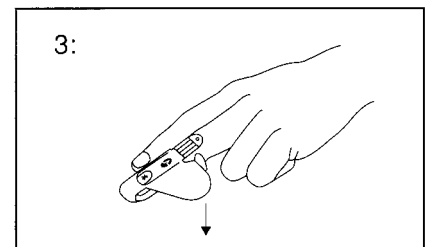

Fig. 33 Aligning the sensor and receiver
- 3 Next wrap the sensor with the transmitter and the finger design around the fingernail, and wrap the flaps downwards, one after the other, around the finger (Fig. 33).